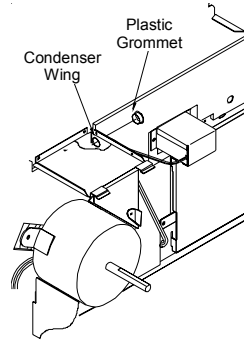

Figure 11
7. Snap the provided 1/2" plastic grommet into the hole in the top sheet metal condenser wing (Figure 11).